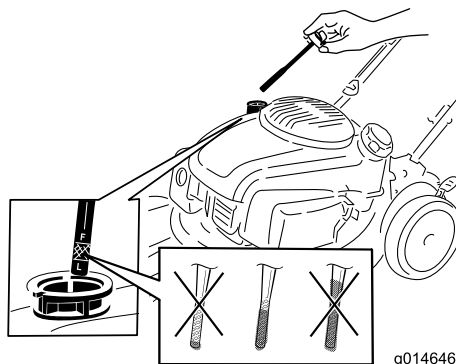

Figure 15
2. Remove the dipstick (Figure 15).
4. **Slowly** pour oil into the oil fill tube until the oil level reaches the Full line on the dipstick (Figure 15). **Do not overfill.** (Max. fill: 22 oz. (0.65 l), type: 10W-30 or SAE 30 detergent oil with an API service classification of SJ or higher.)
Note: Each time you check the oil level, remove the dipstick and wipe it clean, insert it into the oil filler neck (but **do not** screw it in), then remove it again and check the level (Figure 15).